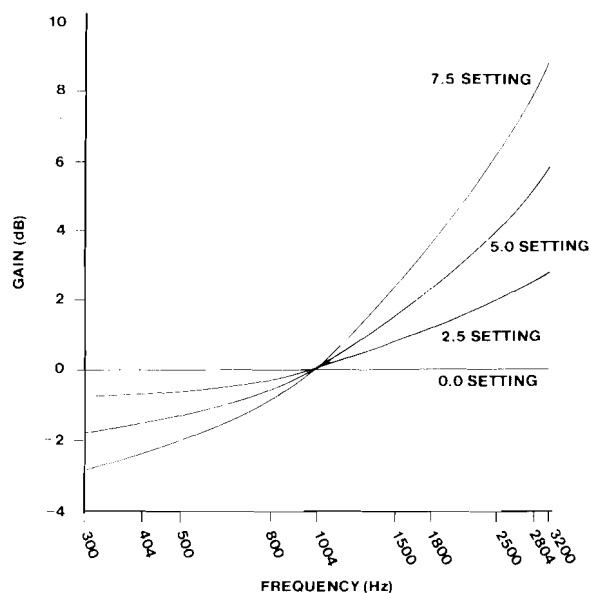

figure 6. Typical slope equalization response curves
increments. Typical frequency response of the slope equalizer is shown in graphic form in figure 6 and in tabular form in table 1.
2.10 The response curves of both the slope equalizer and the bump equalizer “pivot” at 1004Hz, as shown in figures 6 and 7. Thus, neither equalizer has any effect on 1004Hz levels. As a result, equalization can be introduced into the receive channel of the 6048/A not only before but also **after** receive levels are set, with no interference between level and equalization adjustments.
2.12 Prescription active slope-type amplitude equalization is available on the 6048/A for pre-equalization of a facility-side 4wire transmit output pair consisting of nonloaded cable. The transmit equalizer is essentially identical to the receive-channel slope equalizer, providing from 0 to 7.5dB of gain at 2804Hz (re 1004Hz) in switch-selectable 0.5dB increments. Typical achievable flatness and typical frequency response of the transmit equalizer are the same as those of the receive-channel slope equalizer (see paragraph 2.08, figure 6 and table 1). Like the receive equalizers, the transmit equalizer does not affect 1004Hz levels. Thus, transmit equalization can be introduced not only before but also **after** transmit levels are set.